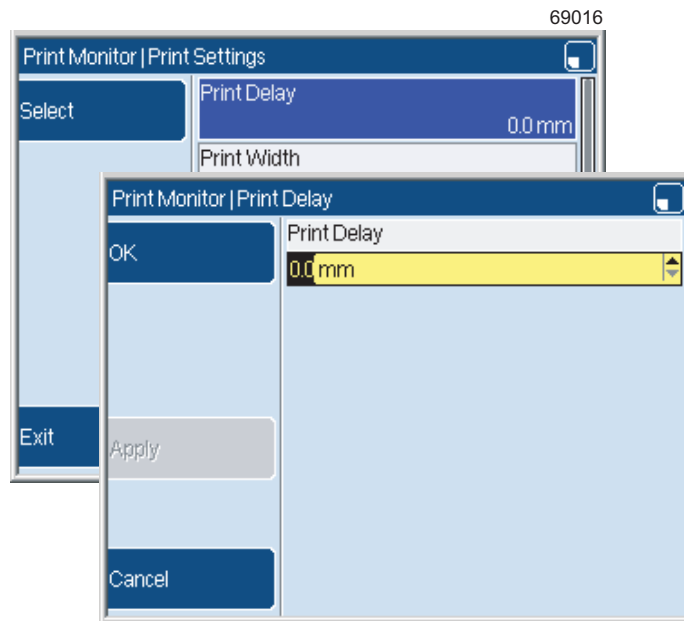

Figure 1-6. Select a page item
2. Press the **Select** key to select the option. When you select the **Print Delay** option in Figure 1-6, the **Print Delay** page is displayed:
To enter or change information for the printer, you use the operator-entry pages. For example, the **Print Delay** page shown in Figure 1-6.